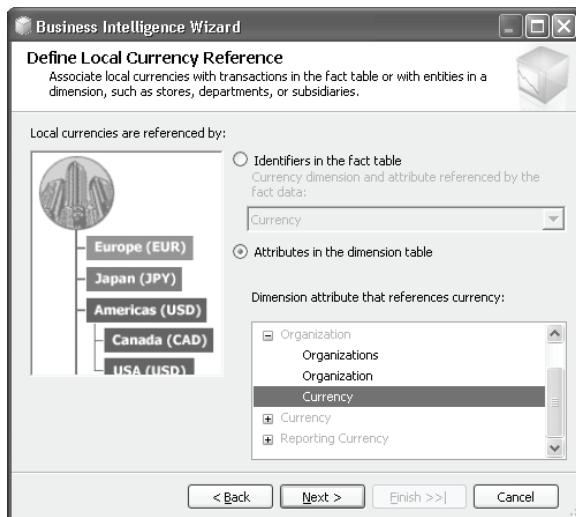

Figure 10.31 You can associate foreign currencies with transactions in the fact table or with entities in a dimension.
3. In the Define the Currency Reference step (Figure 10.31), you need to tell the wizard how to look up the currency rate. If the currency code is captured in the fact row (as with the FactInternetSales and FactResellerSales fact tables), use the *Identifiers in the fact table* option. If the wizard needs to use an intermediary dimension table to resolve the currency code, use the second option. In the Finance UDM, the currency codes that the Adventure Works subsidiaries report in are stored in the DimOrganization dimension table. Therefore, select the second option.